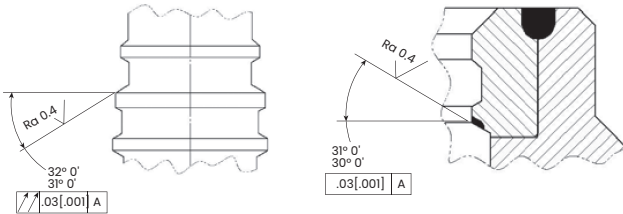

Figure 2: Plug and Seat Ring
Seating Surfaces: Make sure the seating angles on the reworked parts are within the specified tolerances as shown in Figure 2 below. Parts requiring more metal removal to restore should be discarded and replaced.
10. After lapping, disassemble the parts to clean them and then reassemble, making sure the seating angles are within tolerance as shown in Figure 2.